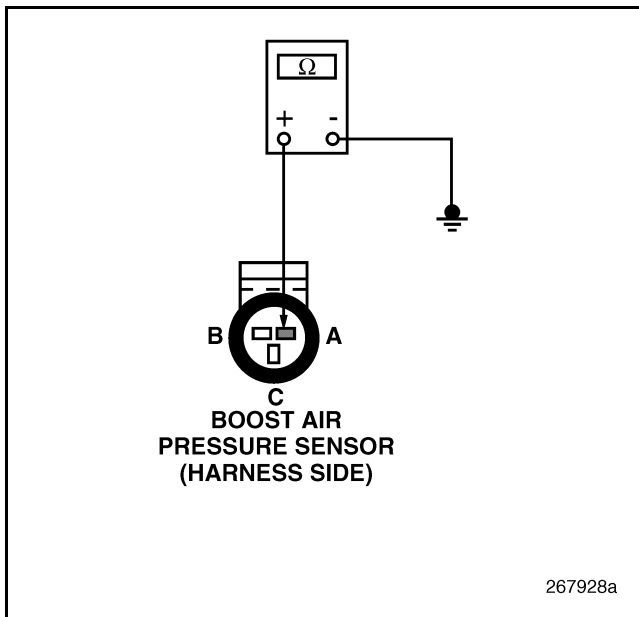

Figure 189
3. Check for continuity between BAP Sensor harness connector pin A (ground line) and a good ground (see Figure 189).